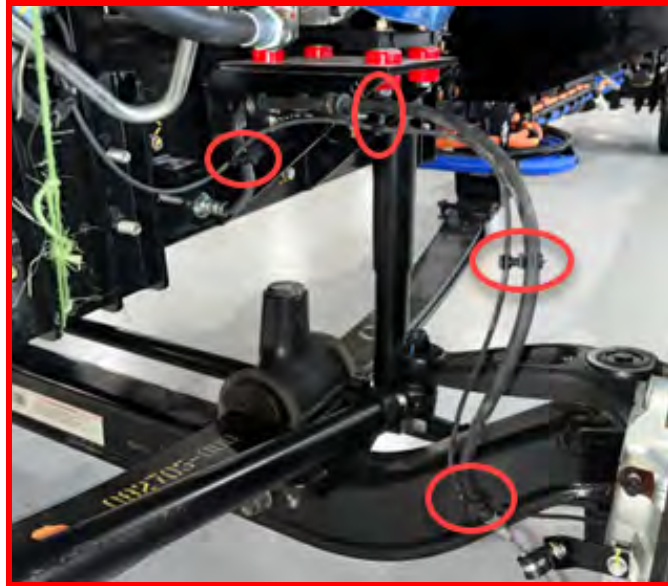

Figure 13 - Drivers Side Speed Sensor/Rubber Brake Hose Retention
5. Confirm proper retention of the ABS speed sensor wire along the rubber brake hose, using existing clips, as shown (Figure 13).